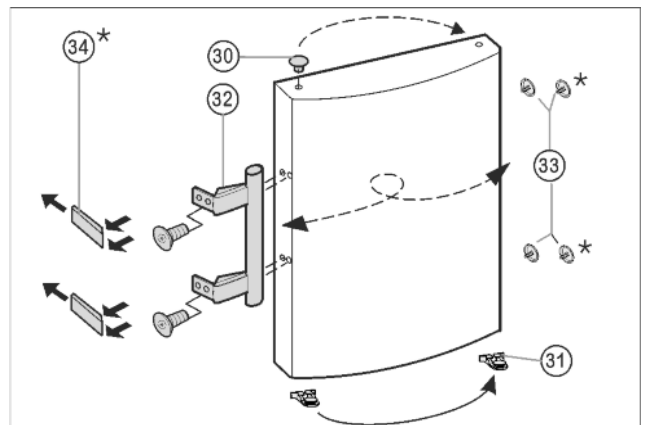

Fig. 7
- ▶ Lift the stopper Fig. 7 (33) out of the door bearing bush and transfer it.
- ▶ Dismantle the door handle *Fig. 7 (32)*, stoppers *Fig. 7 (33)* and pressure plates* *Fig. 7 (34)* and transfer to the opposite side.